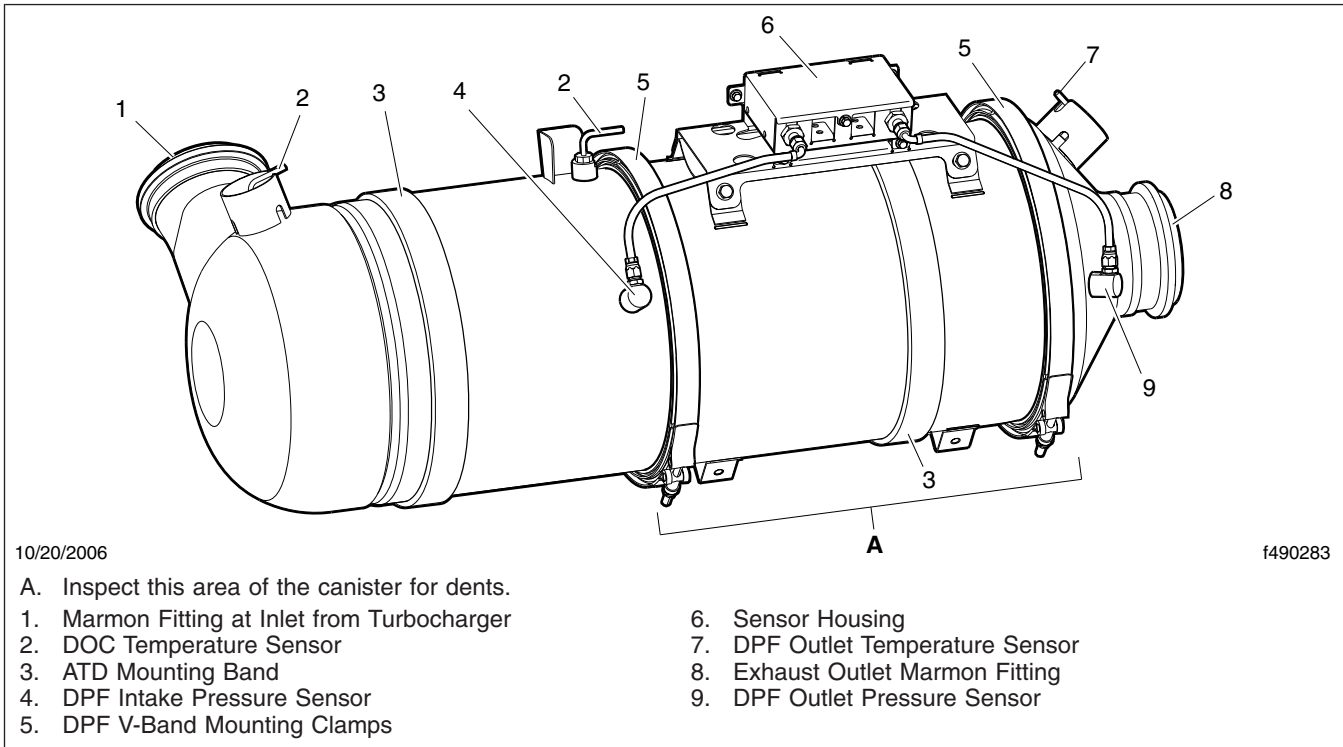

Fig. 4, Typical EPA07 Aftertreatment Device
IMPORTANT: The aftertreatment device (ATD), which is part of the aftertreatment system (ATS), requires special attention during regularly scheduled maintenance inspections; see Fig. 4. No leaks are allowed anywhere in the system. If any discrepancies are discovered, refer to the engine manufacturer's service literature for repair instructions.
8. Check the DPF exterior surface for dents or other damage. See Ref. A of Fig. 4. A dent over 3 inches (76 mm) in diameter or 1/4-inch (6-mm) deep could cause internal damage to the DPF, causing it to malfunction.